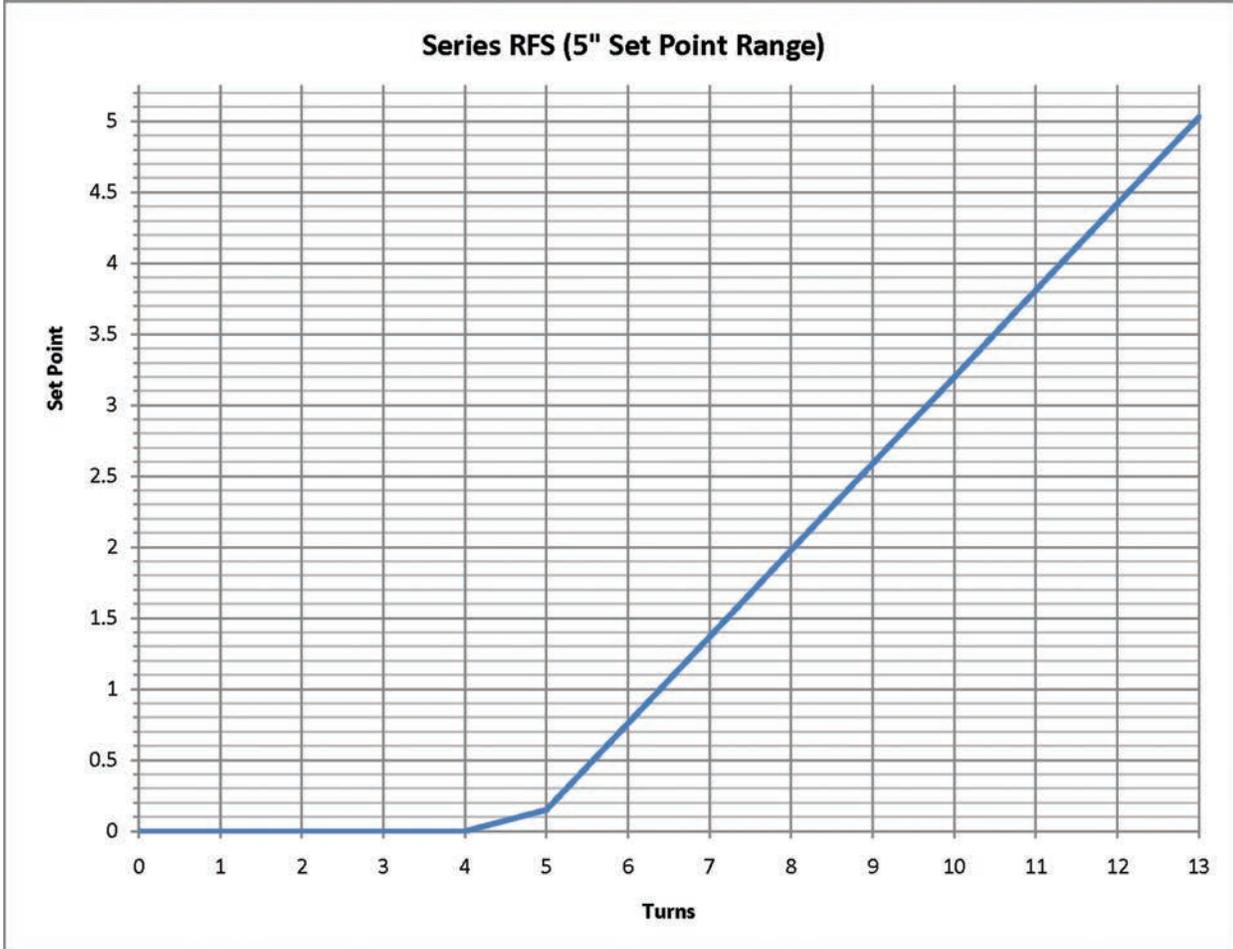

Figure 2
Turn the adjusting screw counter-clockwise until motion has stopped. Next, turn the adjusting screw five (5) complete turns in a clockwise direction to engage the spring. From this point, the next eight (8) turns will be used for the actual calibration: Each full turn represents approximately 0.61" w.c. See Figure 2 (on page 2).